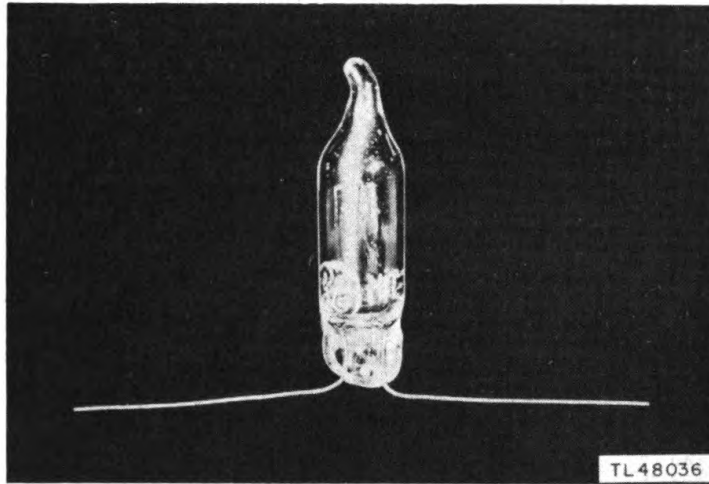

Figure 20. Lamp LM-54.
27. LAMP LM-54 AND CASE (figs. 20 and 21).